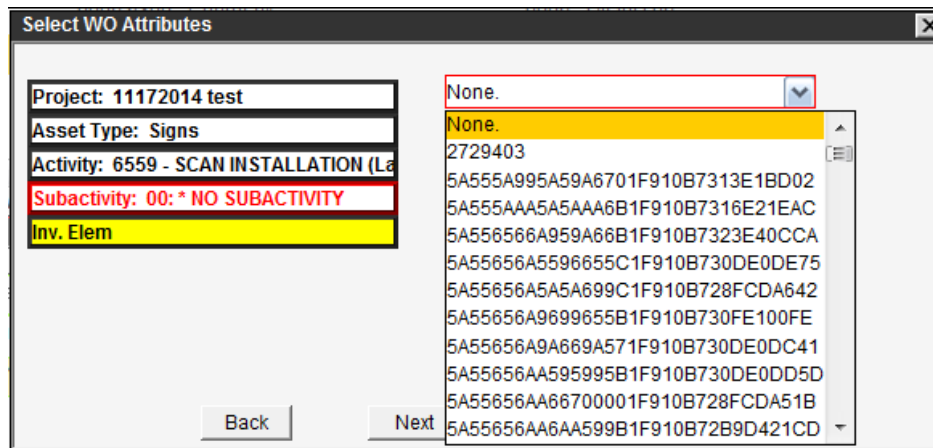

Figure 5-18. Select Work Order Inv. Elem Example
- e. If the dialog box remains open to the Inv. Elem selection (Figure 5-18), select from inventory item names, and select **Next** one time to proceed.
TIP! If an Inventory Element was specified in the WO Attributes dialog box (Figure 5-18), the Work Target pane in the background shows the record.